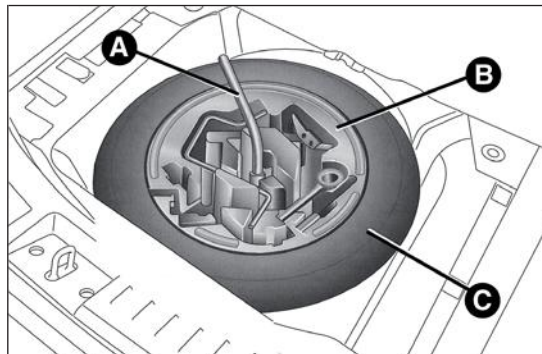

fig. 114
- ❑ using the wrench A fig. 114 located in the tool box, loosen the locking device, take the tool box B and place it close to the wheel to be replaced. Then take the space-saver wheel C;